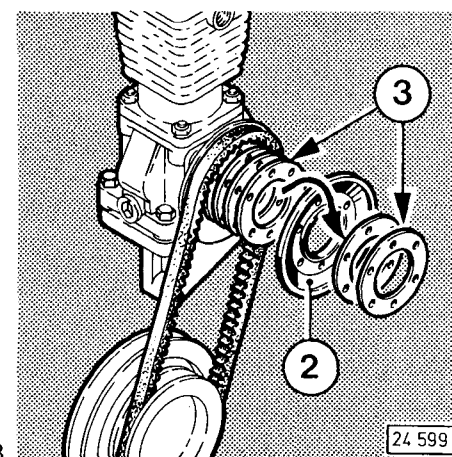

Fig. 48
- Remove one or more shims 3 (Fig. 48) – as may be required – from inside and place removed shim(s) outside on half-pulley 2.